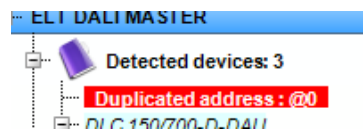

Fig. 79- Example: address 0 is duplicated:
- If there are two devices or more that have the same address, they will be grouped under a single sub-node with the title “Duplicated addresses” (Fig. 79).